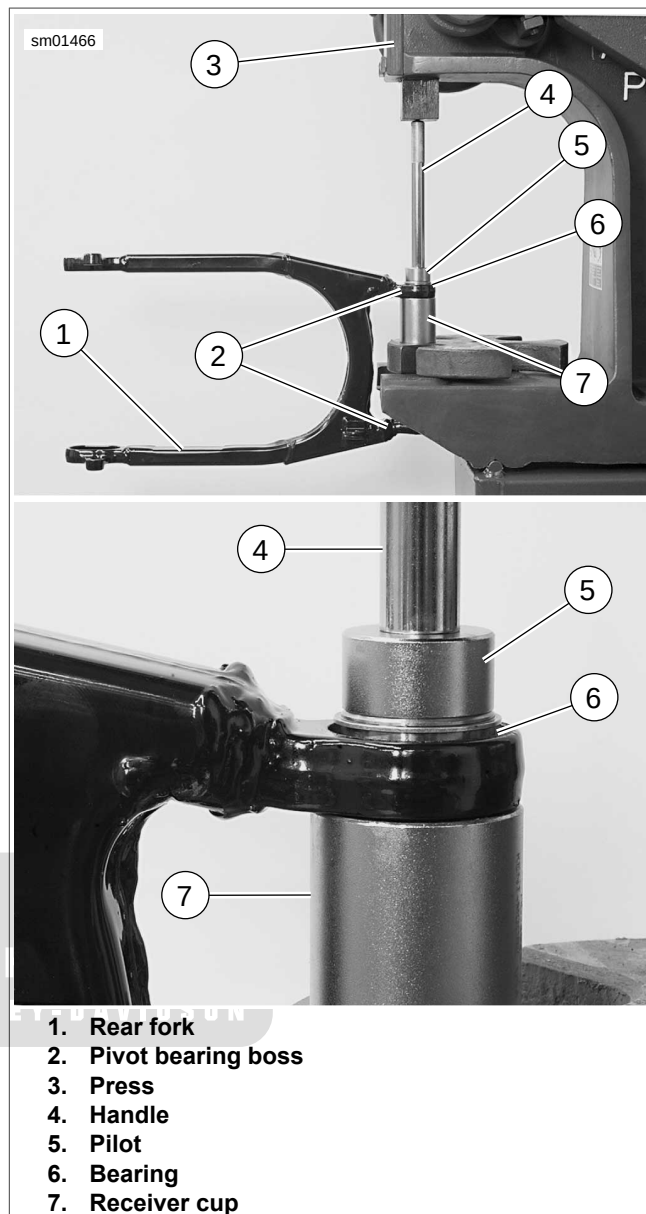

Figure 2-164. Installing Rear Fork Pivot Bearings
- a. See Figure 2-164. Place receiver cup (7) on press bed, with recessed end of cup facing up.
- b. Place rear fork pivot bearing boss (2) over cup as shown in the photo.
- c. Place **new** pivot bearing (6) over pivot bearing boss, with retaining ring side of bearing up.
- d. Slide pilot (5) through **new** pivot bearing, through pivot bearing boss, and into receiver cup.
- e. Insert handle (4) down into pilot.